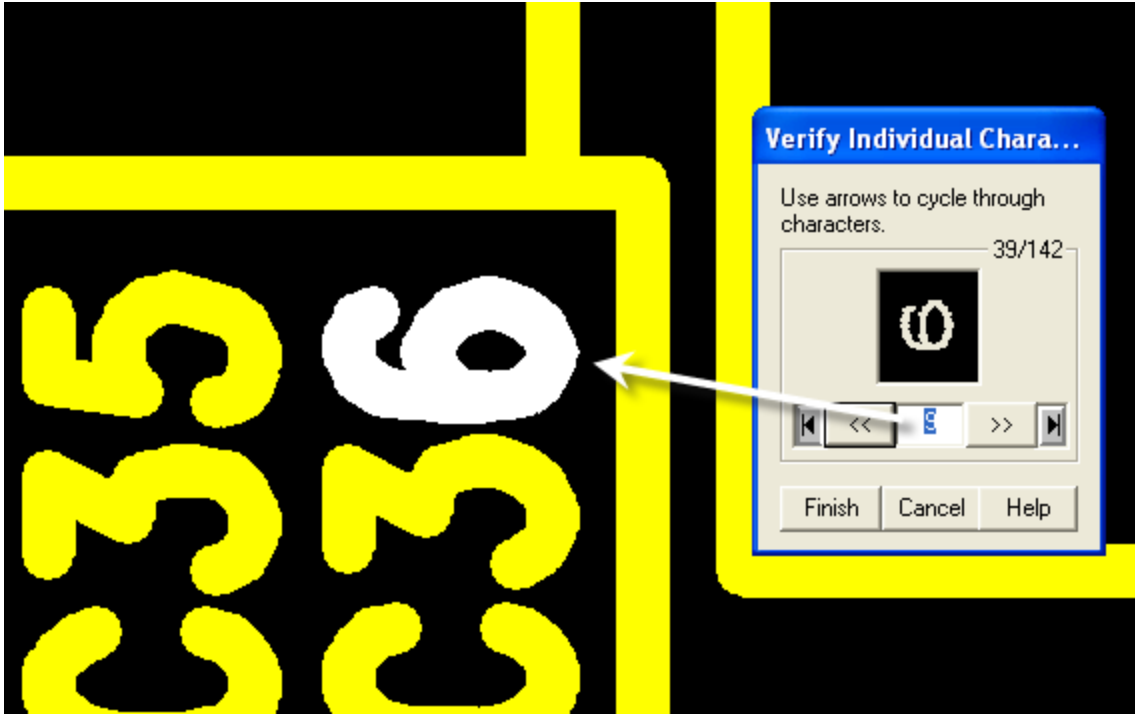

Figure 45
9. Click Finish when all characters have been reviewed. The Find Reference Designators results window will appear – See Figure 45: